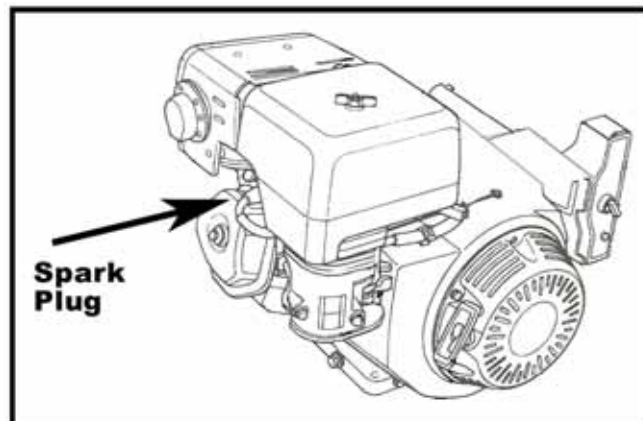

Figure 6-1
3. Next, remove the wire connected to the spark plug. And remove the spark plug from the engine. (See Figure 6-1) (Spark Plug Wrench supplied with Operator's Manual)